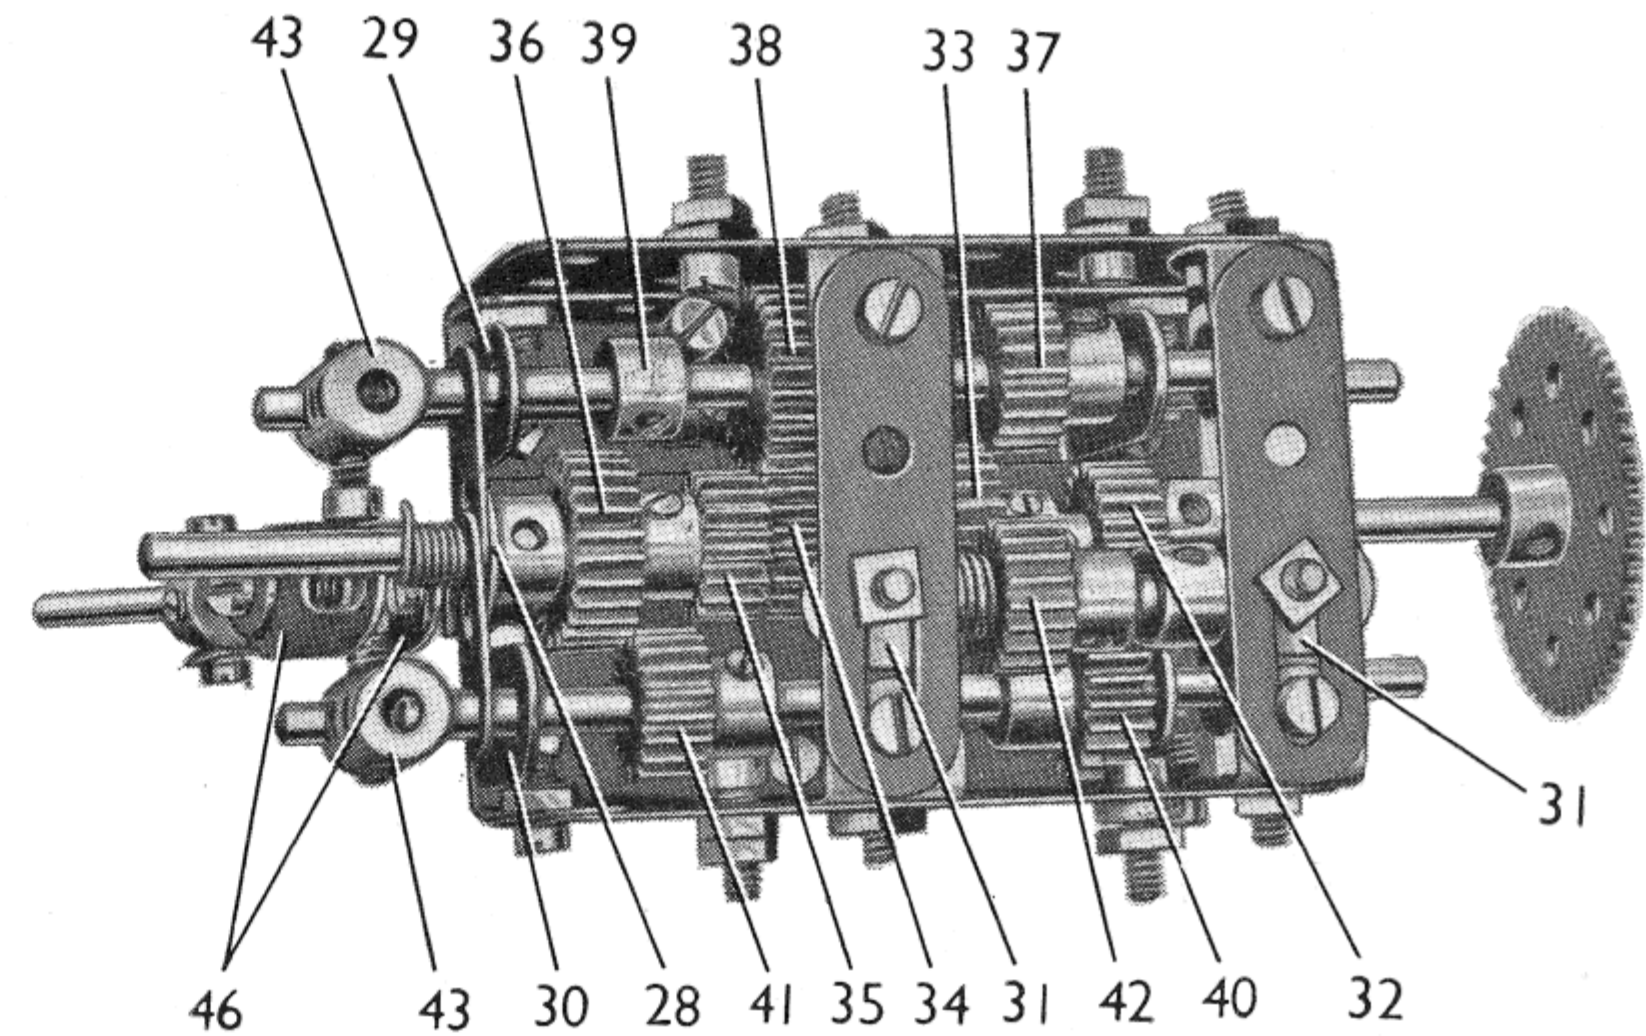

FIG. 7 A close-up of the 3-speed and reverse gear-box
Assembling the Gear-Box (Fig. 7)
A $3" \times 1\frac{1}{2}"$ Flat Plate is attached to each Angle Girder. The bolts that connect the Flat Girders secure also a $1" \times 1"$ Angle Bracket (28) (Fig. 7), and a similar part at the opposite end of the frame. A $1" \times \frac{1}{2}"$ Angle Bracket is also fixed to the centre of the Flat Girders, with a Fishplate bolted to it, so that the round hole in the Fishplate covers the slotted hole in the Angle Bracket. The $1" \times \frac{1}{2}"$ Angle Bracket is located below the 2" Slotted Strip seen at the centre of the gear-box.
The gear selector shafts are $4\frac{1}{2}"$ Rods mounted above the layshafts, and each of them carries a Collar fitted with a $\frac{3}{8}"$ Bolt. The Bolt on the selector shaft for 2nd and 3rd gears engages between the Pinion (38) and the Collar (39). The Bolt on the 1st and reverse gear shaft is located between the Pinion (41) and the Collar. Fishplates are passed over the output shaft and the ends of the layshafts as seen in Fig. 7. A Coupling (43) is fixed to each selector shaft